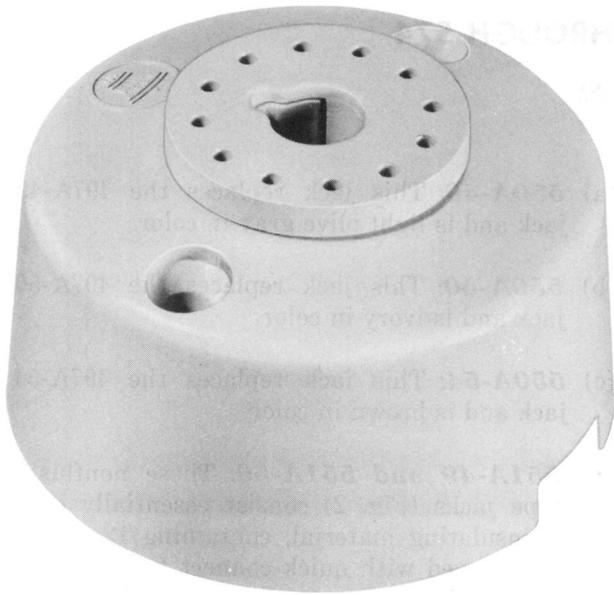

Fig. 2—551A-49 or 551A-50 Jack
2.02 551A-49 and 551A-50: These nonflush-type jacks (Fig. 2) consist essentially of a block of insulating material, containing 12 spring contacts equipped with quick connect terminals. A protective plastic cap fits over the front of the jack, permitting the entry of plug prongs. The associated 504A-type plug can be inserted in one position only. These 551A-type jacks are designed for surface mounting by means of two holes spaced on 1.870 inch centers. The jacks mount by means of two No. 8 wood screws, 1.9 inches long, which are furnished loose. These jacks are used with portable telephone sets having from two to twelve conductor mounting cords.